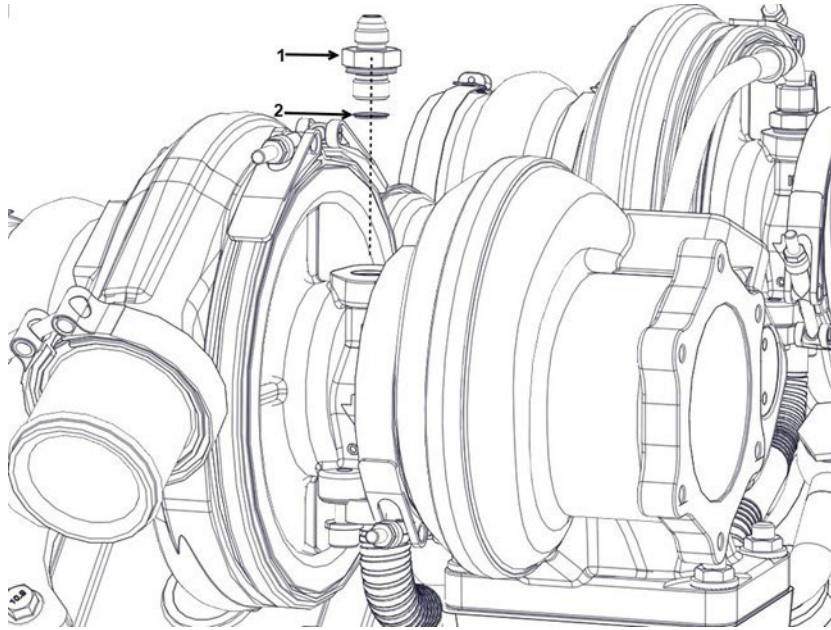

Figure 23. Oil Inlet Assembly
7. Place both washers into the oil inlet. (Refer to Figure 23.)
8. Insert both oil inlet fittings and torque fittings to 21 ft/lbs. (Refer to Figure 23.)